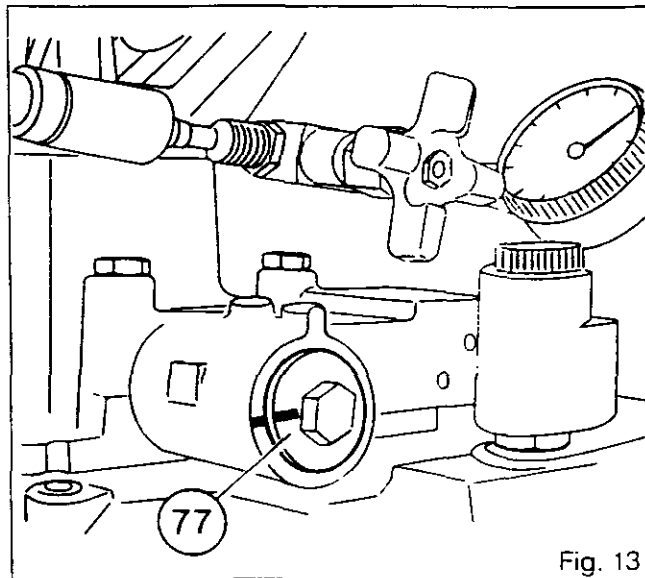
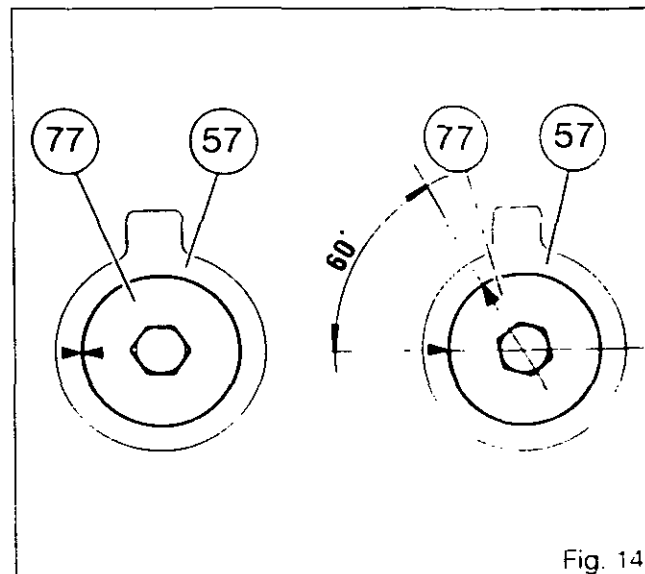
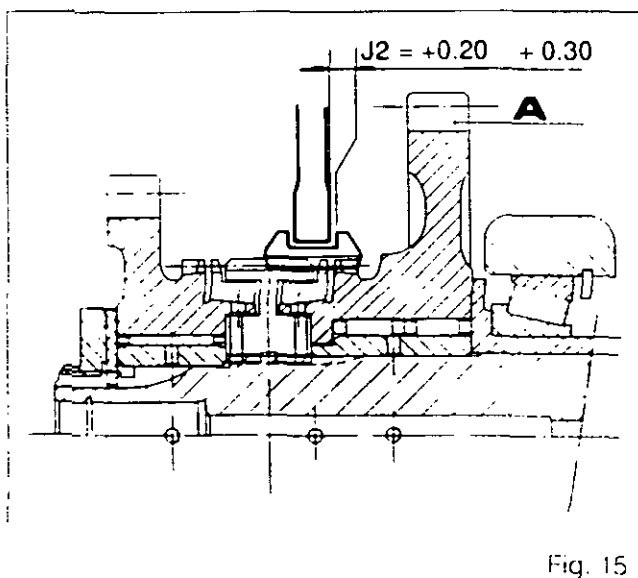

Fig. 13
Fig. 14
Fig. 15
- 22. Mark plug (77) and cover (57) with a straight line (Fig. 13).
- 24. Lubricate O-ring (76) and fit it.
- 27. When the mark on plug (77) is opposite the mark on cover (57), screw the plug in by 1/6 of a turn (60°) (Fig. 14) to give a clearance (Fig. 15):